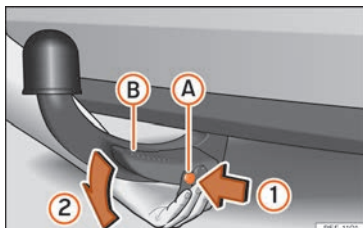

Fig. 189 Removing the tow hook
- Press the release bolt (A) in the direction of arrow (1), and at the same time press lever (B) as far as it will go in the direction of arrow (2) »» Fig. 189.